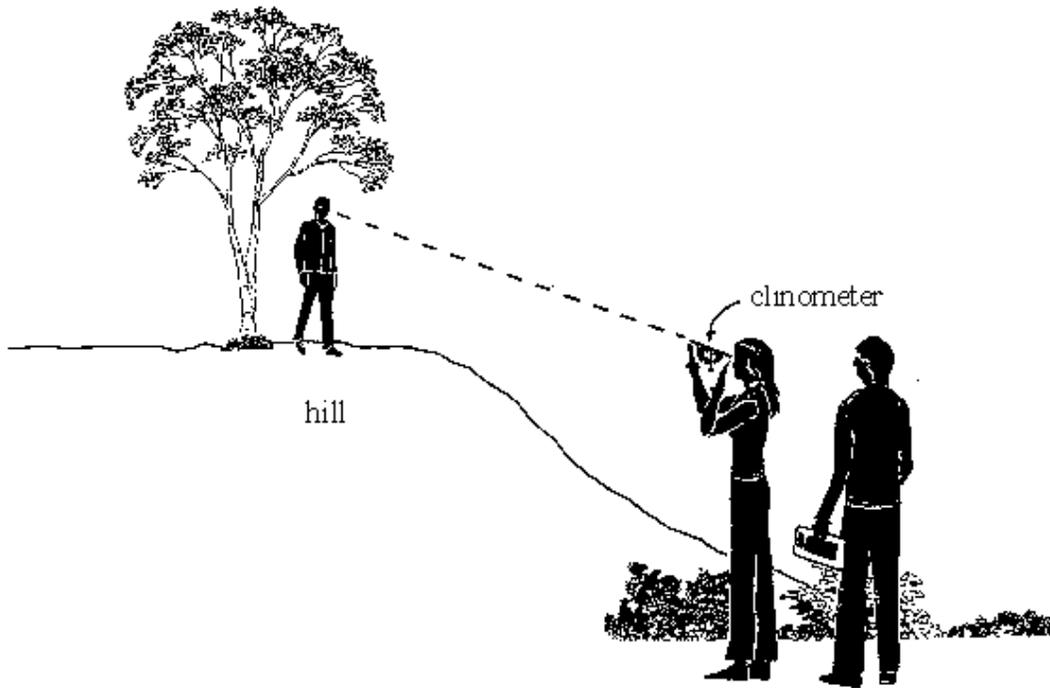
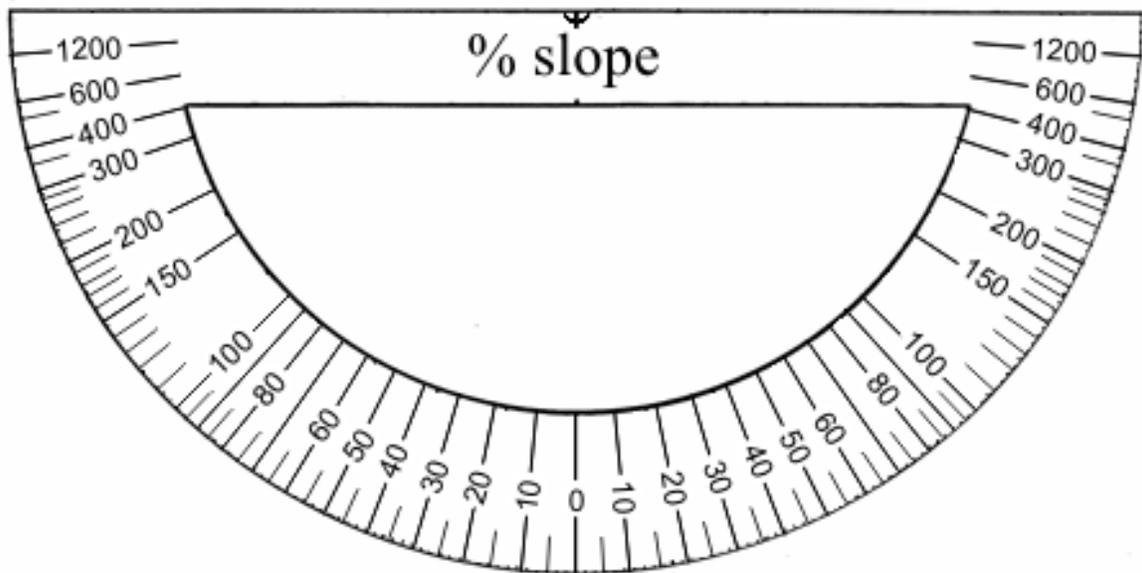

Figure 1. Using a hand-held clinometer to measure slope.
Figure 3. Glue model A or B to cardboard and cut around the shape.
Have students glue model A or B from Figure 3 to the piece of cardboard and cut out around the outside margin. Using the tape, attach approximately 12 inches of string to point X on the clinometer you have selected to work with. Attach the small weight to the end of the string; the string must swing freely from point X. Using two or three pieces of tape, attach a soda straw along the straight edge of the scale. This will be your sight. See Figure 1 for steps 2, 3, and 4.
Have students select three slopes around the school grounds. One of the groups will act as a target; this person stands at the top of the slope. Another student sights through the clinometer at the nose of the target student (see Figure 1). The third partner reads and records the position of the string as it crosses the scale. Students should swap jobs so all have a turn using the clinometer. See data table on student pages.
For this activity you will work in groups of three. Each group will need the following: a soda straw, a piece of stiff cardboard, a piece of string 1 foot long, paper, white glue, masking tape, a small weight, a paper copy of the clinometers (Figure 3), a diagram of the finished product (Figure 2), and scissors. Each student will need a pen and notebook.
1. Glue EITHER model A or B from Figure 3 onto a piece of stiff cardboard and cut out around the outside margin.
- With one of the partners as a target at the top of the slope, a second partner sights through the straw at the NOSE of the target partner (see Figure 1). The sighting partner needs to hold the clinometer very steady.